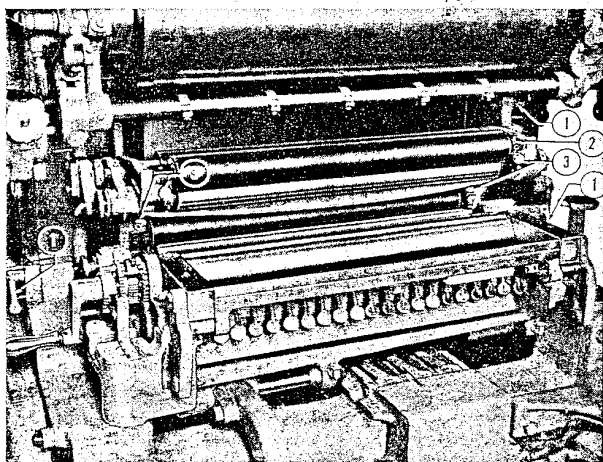

Figure 31—Form and Distributor Rollers
(3) **HOW TO OPEN OR REMOVE FORM AND DISTRIBUTOR' ROLLERS.**—The composition form and distributing rollers are mounted in roller boxes which attach to the form and distributing roller frames. (See figure 31.) The roller frames are so designed that the composition rollers may be lowered out of operating position. Roller lock levers, (1) figure 31, one on each end of roller frames, lock the frames in operating position.
The rollers are locked in their boxes by means of roller box keys, (2) figure 31, in the right side roller box. A roller may be removed from its box by sliding the key from the box, permitting the removal of the roller. In addition, the roller frames can be easily removed from the press by swinging the roller lock levers (1) figure 31, to their up position, permitting the roller frames to be lifted from the studs on which they mount.
(4) HOW TO ADJUST FORM AND DISTRIBUTOR ROLLERS.—Roller adjusting screws, (3) figure 31, provide for adjusting the form and distributor composition rollers for correct contact with ink table and their vibrator rollers. When the rollers are adjusted for correct contact with ink table, they will also be in correct contact with their vibrator rollers. To check for correct composition roller setting, proceed as follows:
(a) With form and distributor rollers installed on their frames, lock frames in operating position, being sure that lock levers, (1) figure 31, are in down position. (Figure 31 shows form rollers in open position.) If new composition rollers are installed, reset to proper contact by means of adjusting screws.
sition, and then examine roller impression on ink table. The impression should be approximately  $3/16''$  wide the full length of roller. If impression is not correct, turn roller adjusting screw, (3) figure 31, as required.